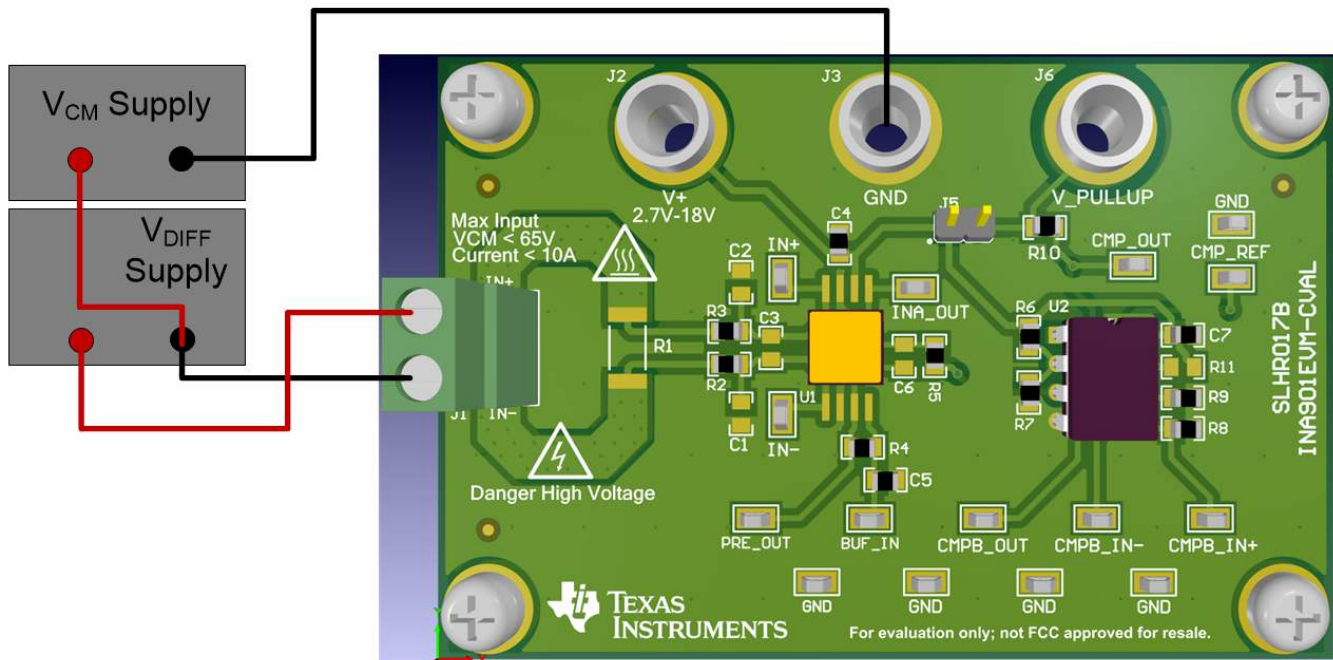

Figure 3. Supply Setup for Common and Differential Voltage
- Step 2. Set the common mode voltage: to evaluate at a specific common mode, connect an unpowered -15-V to 65-V voltage supply to the inputs by connecting the positive lead of the external voltage source to the negative terminal of J1, and negative lead to a GND test point. This action effectively raises the absolute common-mode voltage of the input pins, while still retaining a positive input differential signal. Figure 3 shows how this supply setup should look when this is done. Ensure that the supplies used to perform this are able to withstand the voltages present before using this method.